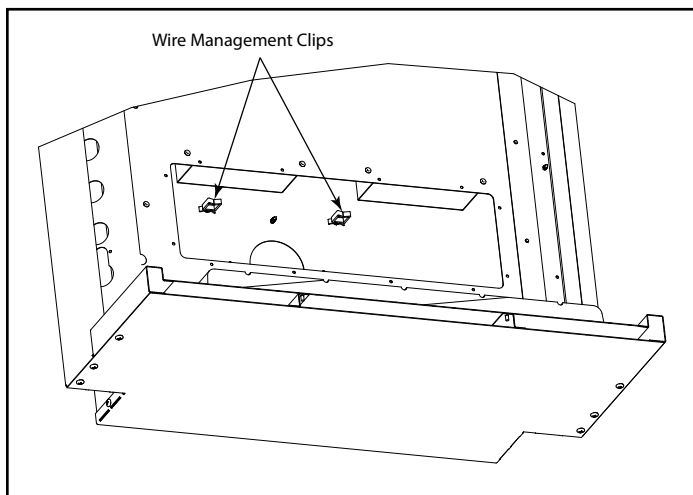

Figure 8 - Wire Management Clip Locations
12. Insert Two (2) wire management clips from fastener pack into side of outer wrapper. See Figure 8.